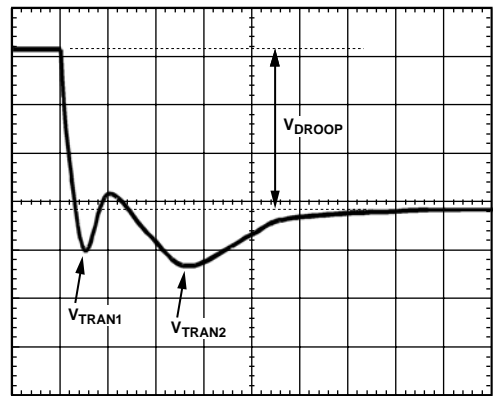

Figure 18. Transient Setting Waveform
18. With the dynamic load still set at the maximum step size, expand the scope time scale to see 2 $\mu\text{s}/\text{div}$ to 5 $\mu\text{s}/\text{div}$. The waveform can have two overshoots and one minor undershoot (see Figure 18). Here, V_{DROOP} is the final desired value.